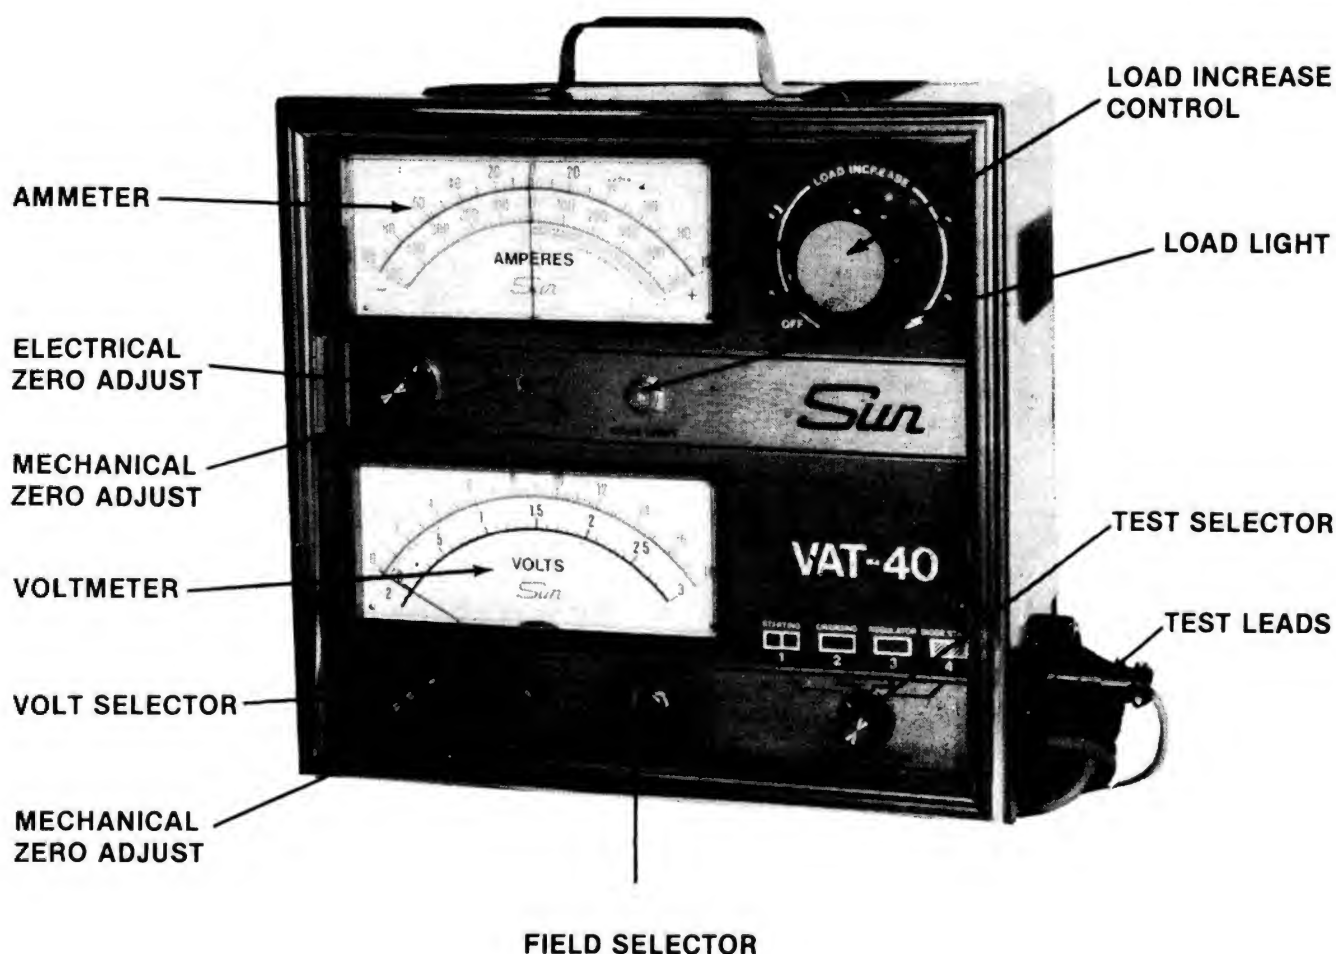

Figure 1—Volt Ampere Tester Model VAT-40.
- A. Check each meter's mechanical zero. Adjust if needed. See Figure 1.